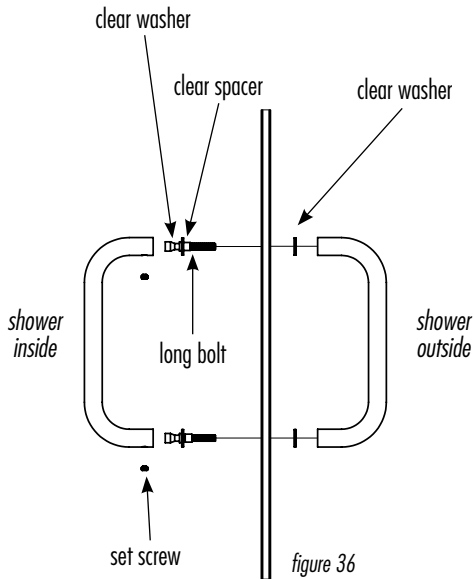

figure 36
1. Set the glass door in a position to enable the assembly of the handle (fig. 36).
5. Start with the top hole on the glass door. Place the long bolt through the hole in the door (keeping the remaining rubber pieces on the bolt). On the other side of the glass place the flat washers onto the threaded portion of the bolt (fig. 36).
6. Take one side of the handle and screw the long bolt into the end. Just start the bolt until a few threads catch. Keep loose (fig. 36).
7. Put the second bolt through the lower hole. Place the flat washer onto the bolt. Screw the bolt into the bottom handle (fig. 36).